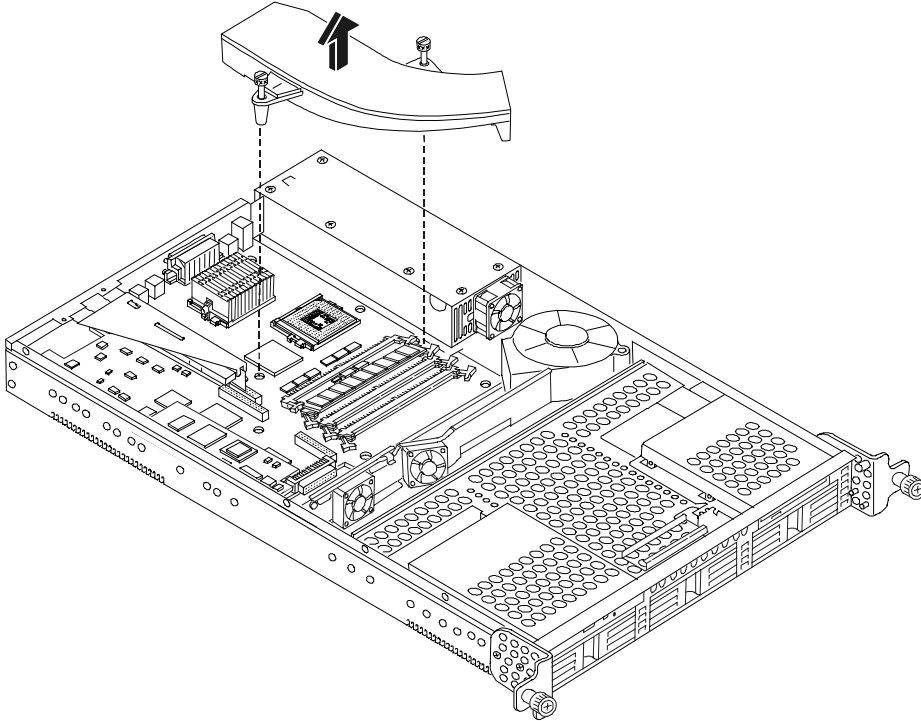

Figure 4-1. Removing the Air Duct
5. Locate the DIMM slots on the system board. See Figures 4-1 and 4-2.
6. Loosen the two captive screws holding the air duct over the DIMM slots, and remove the air duct. See Figure 4-1.
6. Loosen the two captive screws holding the air duct, which covers the DIMM slots, and remove the air duct. See Figure 4-1.